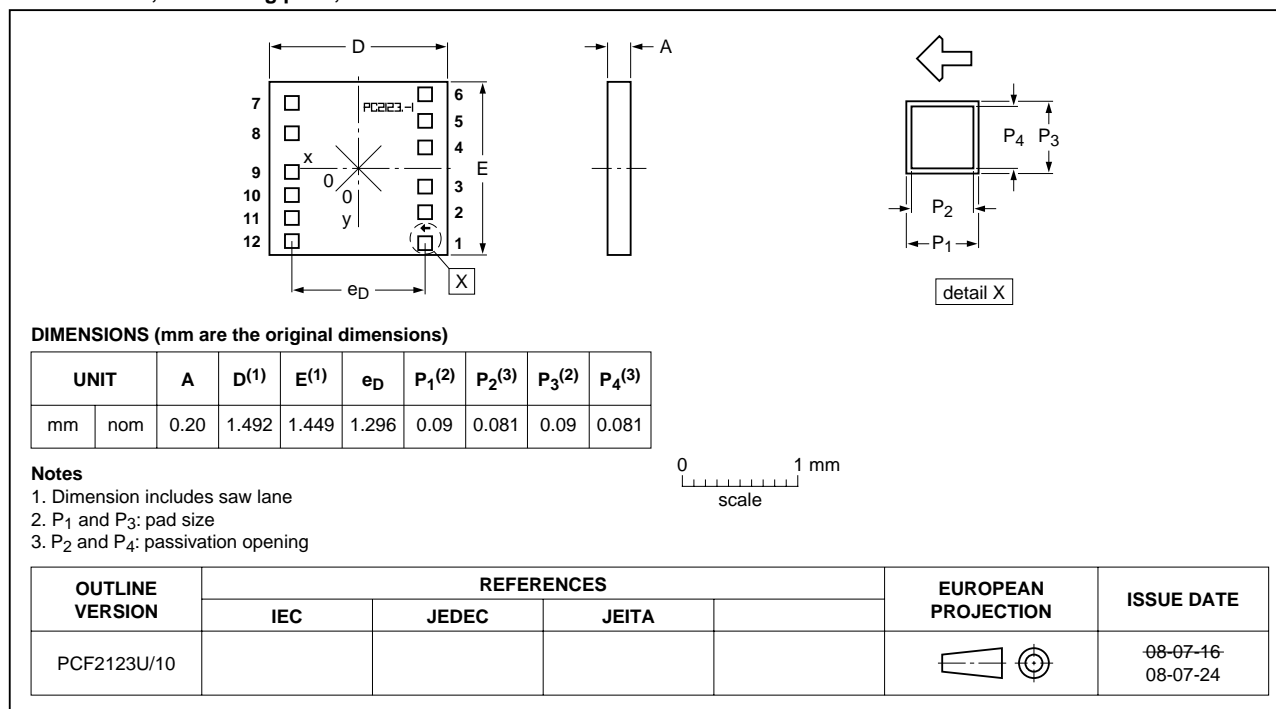
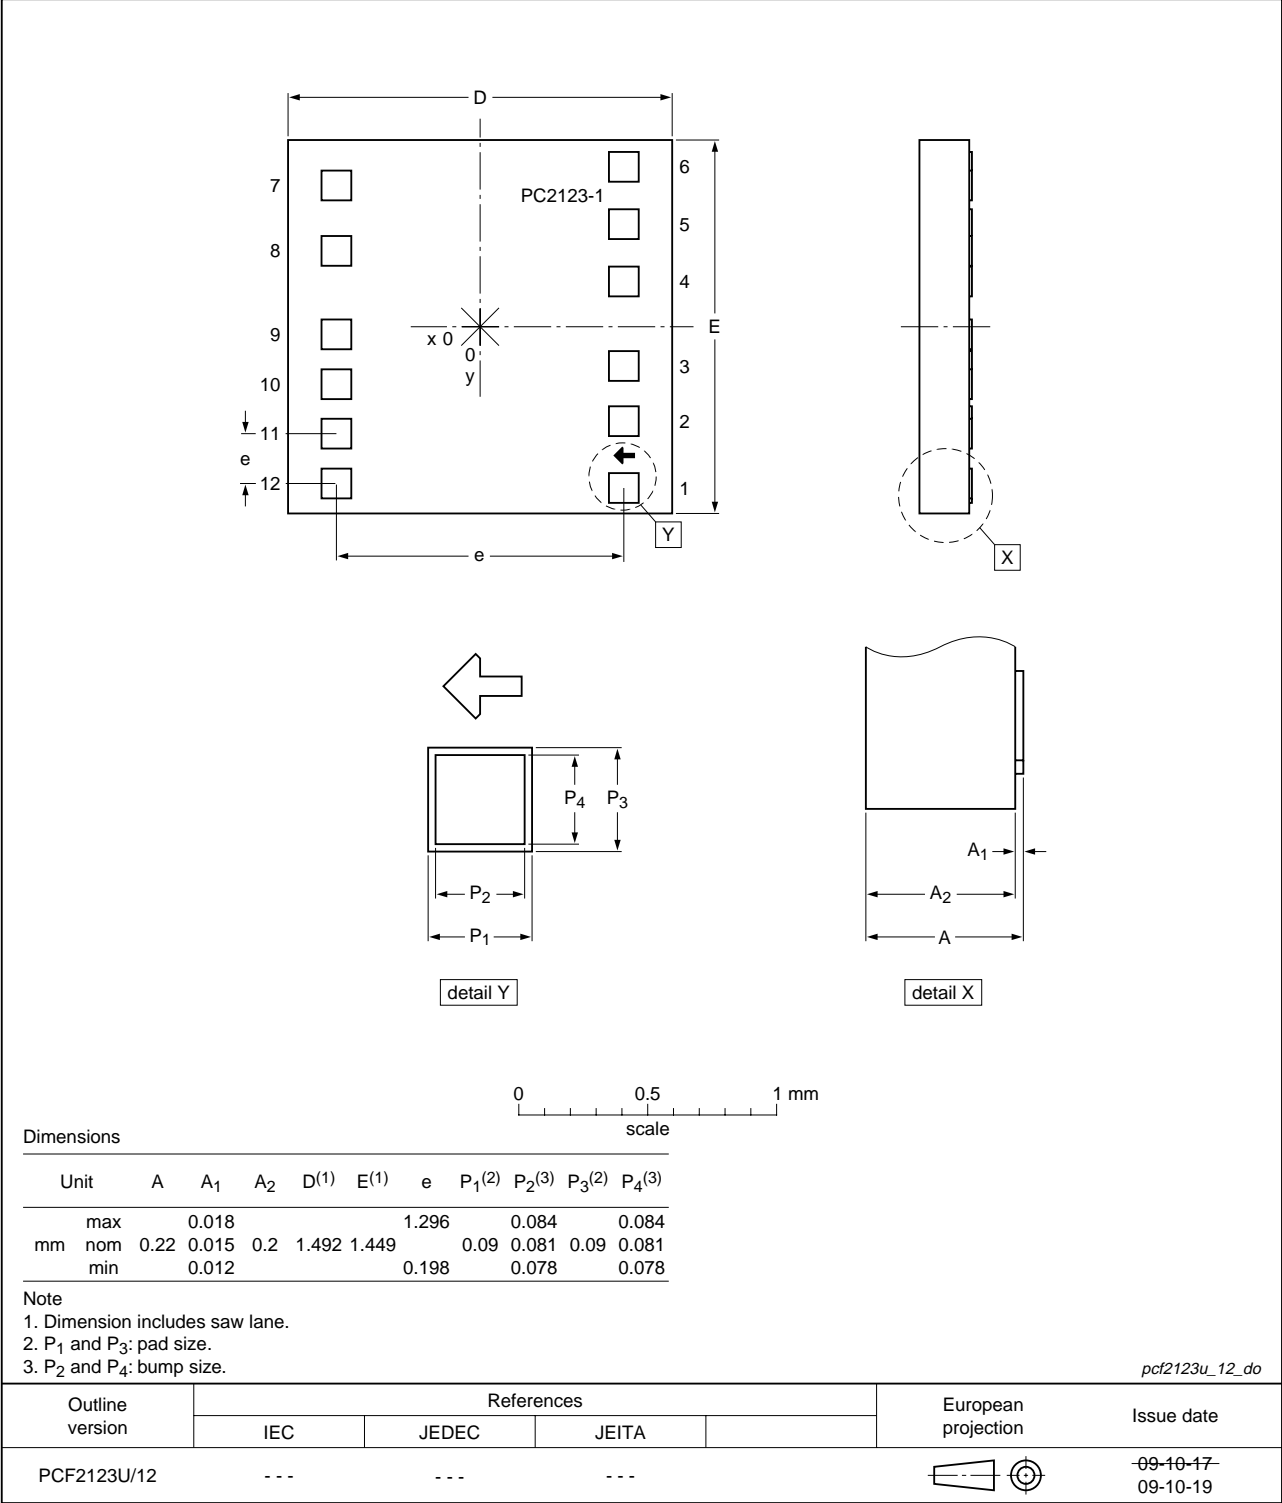

Fig 32. Bare die outline of PCF2123U/10
Fig 33. Bare die outline of PCF2123U/12
All x/y coordinates represent the position of the center of each pad with respect to the center (x/y = 0) of the chip; see Figure 32.
All x/y coordinates represent the position of the center of each pad with respect to the center (x/y = 0) of the chip; see Figure 33.
- [1] The x/y coordinates of the alignment mark location represent the position of the REF point (see Figure 34) with respect to the center (x/y = 0) of the chip; see Figure 32 and Figure 33.